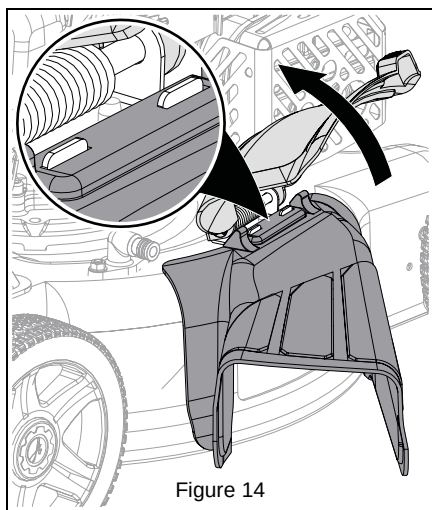

Figure 14
4. Slowly return rear door to closed position. See Figure 14.